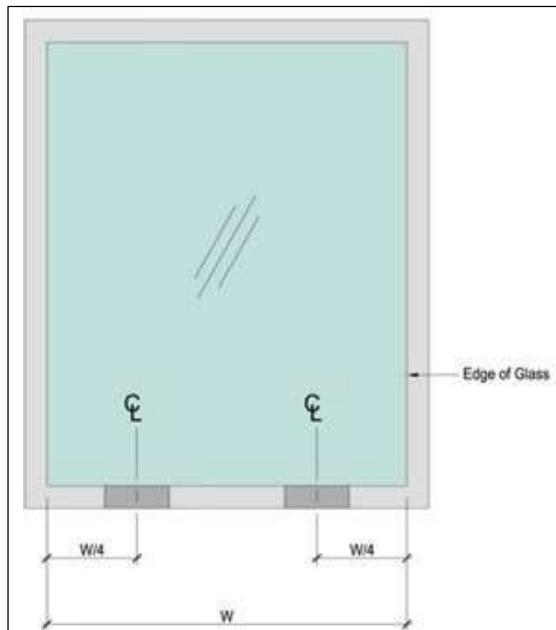

Figure 3 - Preferred Support Block Location
- Preferred location - Quarter points ($1/4$) of the sill supporting frame (glass gravity base width) as shown in Figure 3.